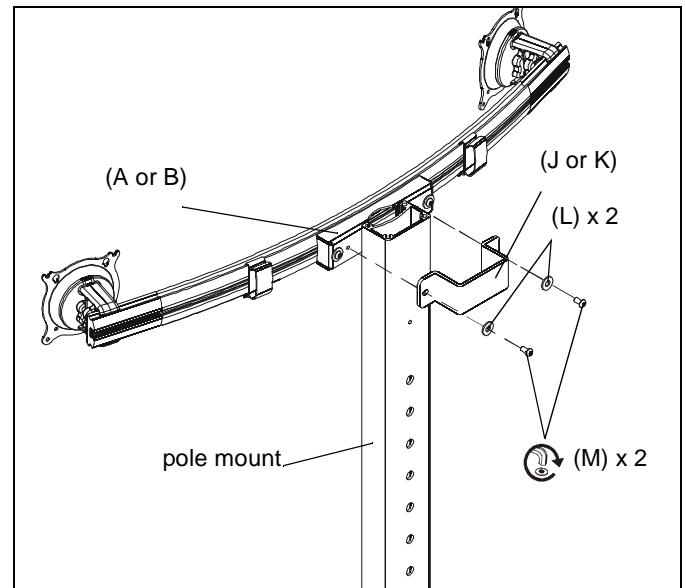

Figure 2
2. Attach pole clamp bracket (J or K) to pole mount front using two 1/4" washers (L) and two 1/4-20 x 3/4" button head cap screws (M). (See Figure 2)
3. Secure pole clamp bracket (J or K) to pole mount front and pole by tightening two button head cap screws (M) using a 5/32" hex key (H). (See Figure 2)